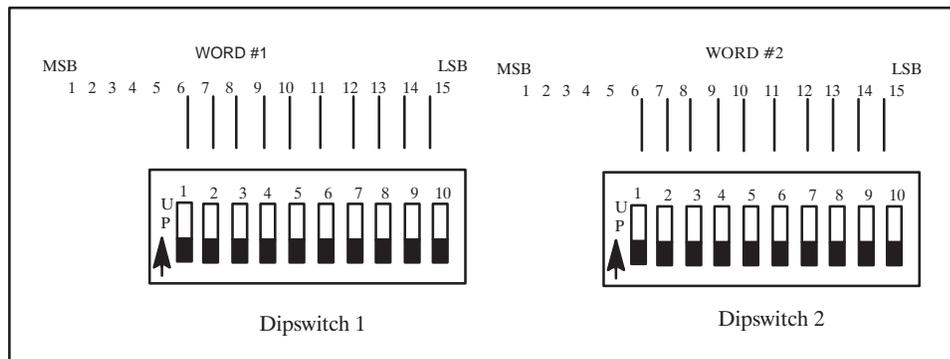

Figure 5–10 Dipswitch Values Bit Map
**dddd** The current values for Dipswitch 1 and Dipswitch 2 in the most significant word and least significant word respectively. The position values are right-justified in each word as shown in Figure 5–10. A bit set to one indicates the corresponding switch is up (off).